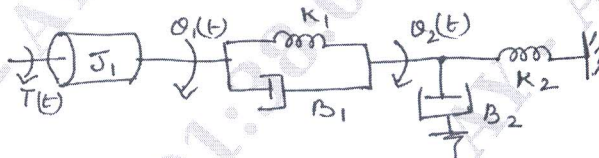

Fig. Q2 (c)
- c. For the system shown in Fig. Q2 (c), find the transfer function,  $G(s) = \frac{Q_2(S)}{T(S)}$ . Consider  $J = 1 \text{ kgm}^2$ ,  $K_1 = 1 \text{ Nm/rad}$ ,  $K_2 = 1 \text{ Nm/rad}$ ,  $B_1 = 1 \text{ Nm/r/s}$ ,  $B_2 = 1 \text{ Nm/r/s}$ . (06 Marks)